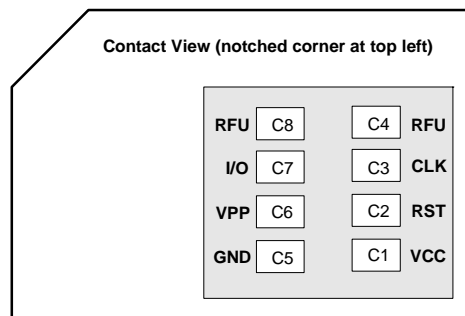

Figure 3-4: SIM Card Contacts (Contact View)
1. See Figure 3-4 on page 32 for SIM card contacts.